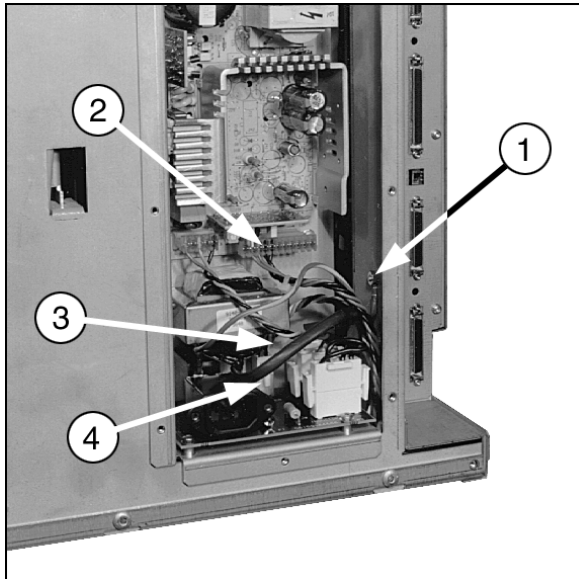

Figure 5-12. Disconnecting Cables Before Removing 24 V Module
4. (See Figure 5-12.) Remove the 11/16-inch nut holding the ground wire to the side of the module enclosure (on the inside wall of the module). See Figure 5-12 (1).
5. Disconnect the 11-pin 24 V power cable (2), 5/12 V power supply cable (3), and the 4-pin autochanger control cable (4).